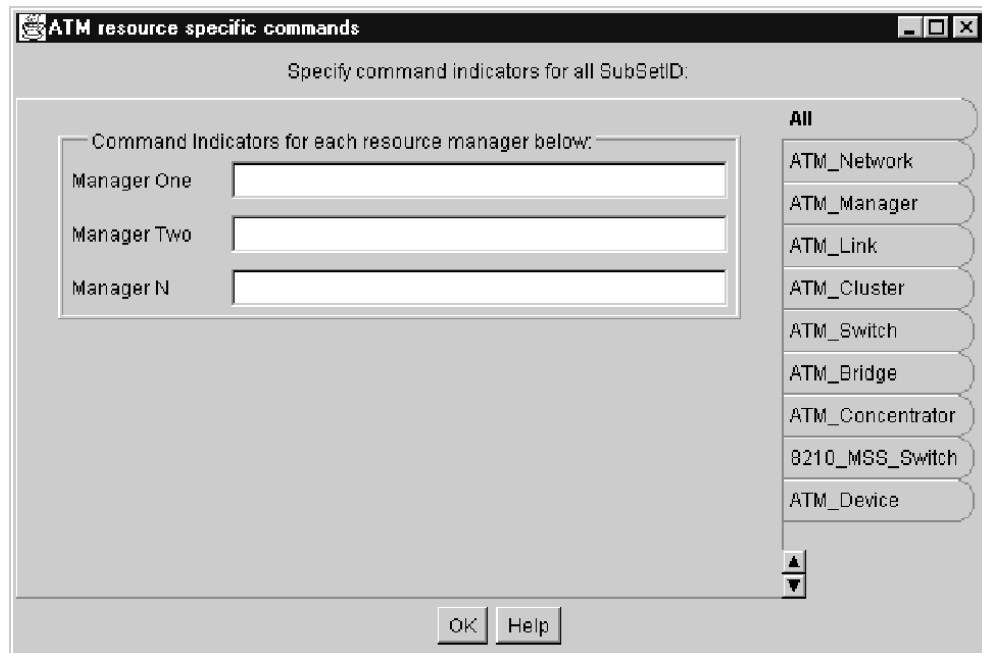

Figure 25. ATM Resource Specific Commands - Command Indicators Dialog
4. Click **Continue**. The screen shown in Figure 25 on page 135 is displayed.